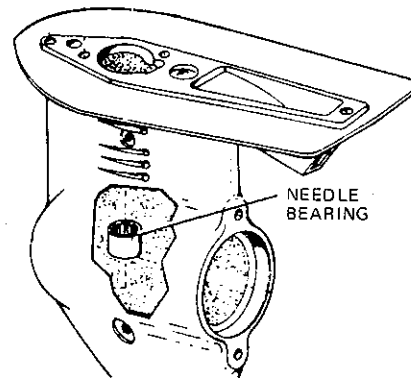

Figure 15. Use tool no. 94425 to remove bearing.
- T. To remove the drive shaft needle bearing from the gear housing assembly, bearing removal and installation tool number 94425 should be used. Insert the tool, without the "C" clip, in the drive shaft needle bearing and drive out the bearing (Figure 15).